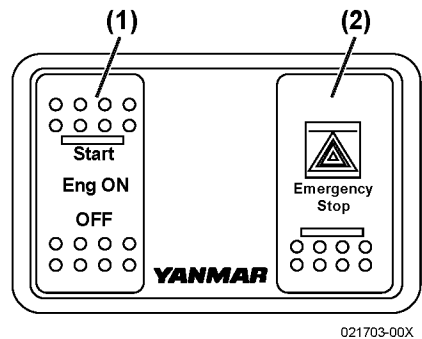

Figure 13
1. The ignition switch (Figure 13, (1)) is wired to 1st station panel.
3. The Emergency Stop switch (Figure 13, (2)) is wired in series with 1st station panel.